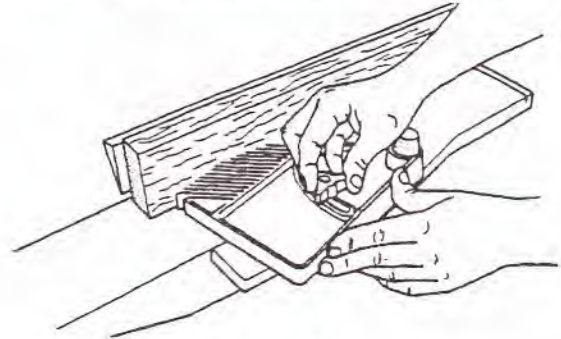

Fig. 22
4. Move the stop knob (15) and stop pin (14) away from the workpiece so it touches the stop stud (16).
5. Tighten the stop knob (15), as in Fig. 22.